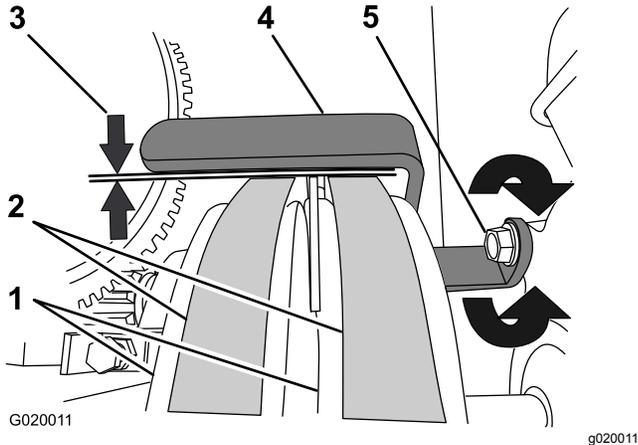

Figure 75
3. Check that the air gap between the belt guide and the belts is 2.5 to 4.0 mm (3/32 to 5/32 inch); refer to Figure 75.
- A. Loosen the bolt that secures the belt guide to the engine (Figure 75).
- B. Rotate the belt guide up or down until there is an air gap of 2.5 to 4.0 mm (3/32 to 5/32 inch) between the guide and each belt (Figure 75).
- C. Tighten the bolt that secures the belt guide to the engine (Figure 75).